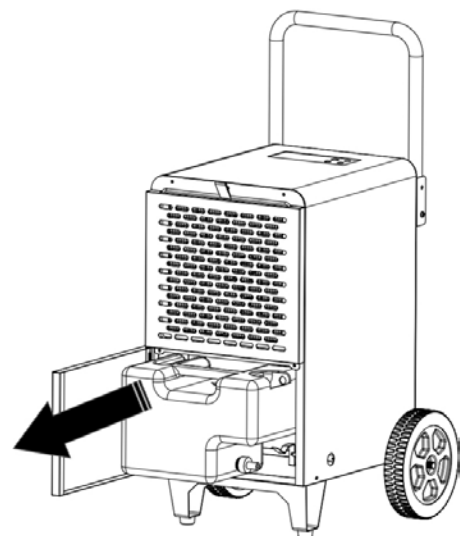

Fig. 7
- Removing the Condensate container (fig. 7)